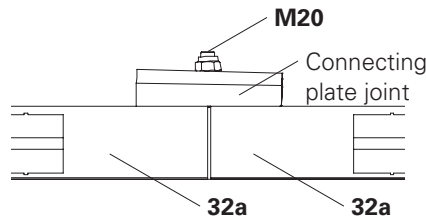

Fig. B3.02a
1. Assemble Rails 100 VARIOKIT (32a) at the connecting plate joint and connect using bolts M20 x 45. (Fig. B3.02a)